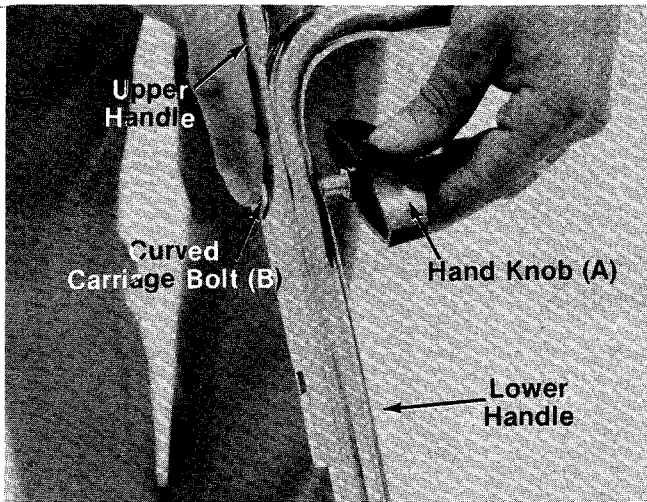

FIGURE 4.
4. There are two height positions for the handle. Place upper handle (with the clutch control attached) in position over lower handle, selecting hole for either high or low position. Refer to figure 24. Secure with two curved carriage bolts (B) and hand knobs (A) as shown in figure 4. The knobs can be either to the inside or the outside of the handle.